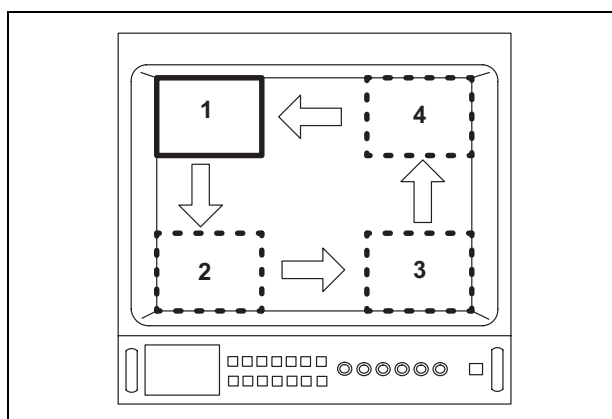

Figure 5.124
The sub-image can be displayed at one of 4 different positions on the video monitor by controlling the menu switches or keyboard (optional) (see Figure 5.124).
- The upper left corner (displayed as “1” in Figure 5.124)
- The lower left corner (displayed as “2” in Figure 5.124)
- The lower right corner (displayed as “3” in Figure 5.124)
- The upper right corner (displayed as “4” in Figure 5.124)